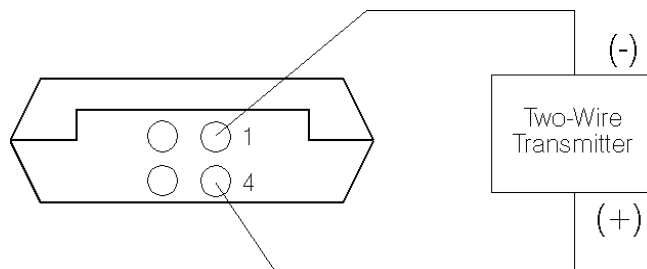

Figure 4 - PCL431 Simultaneous Power/Display
- The PCL431 can simultaneously power a device with 24 volts and display the current flowing through the loop. This is particularly useful when calibrating a two-wire transmitter. A typical application is shown in Figure 4.